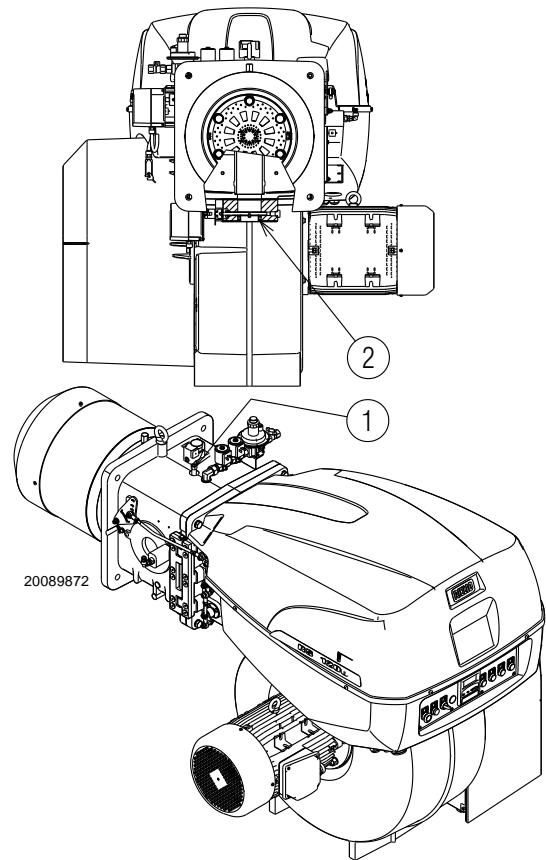

Fig. 21
Gas pressure measured at the test point 1) (Fig. 21), with:
Pressure loss at gas butterfly valve 2)(Fig. 21) with maximum opening: 90°.
- subtract the combustion chamber pressure from the gas pressure measured at test point 1)(Fig. 21).
Gas pressure at test point 1) (Fig. 21) = 59.2 mbar
To calculate the required gas pressure at test point 1) (Fig. 21), set the maximum modulating output required from the burner operation:
- read, on the right (column 1), the pressure at the test point 1) (Fig. 21).
Pressure required at test point 1)(Fig. 21).